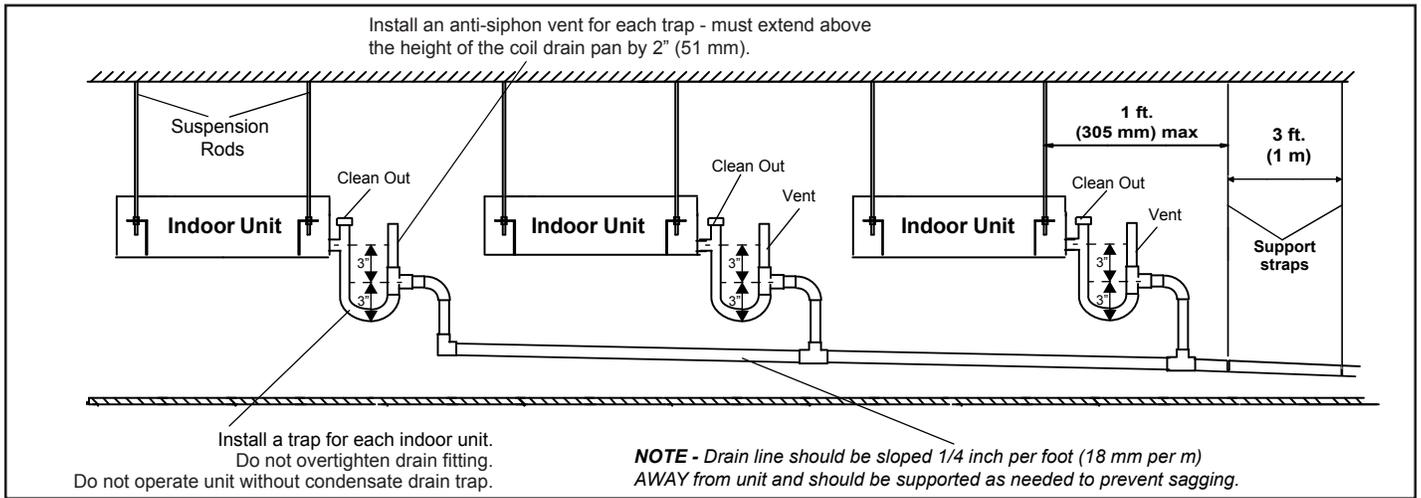

Figure 12. Scaled Condensate Gravity Drain Multiple Indoor Units
4. See Figure 12 for applications including multiple units and a single gravity drain. In this case, ensure that the drain line is properly sloped (no less than 1/4 inch per foot) and condensate lines are routed to ensure moisture is drained away from the indoor unit. See